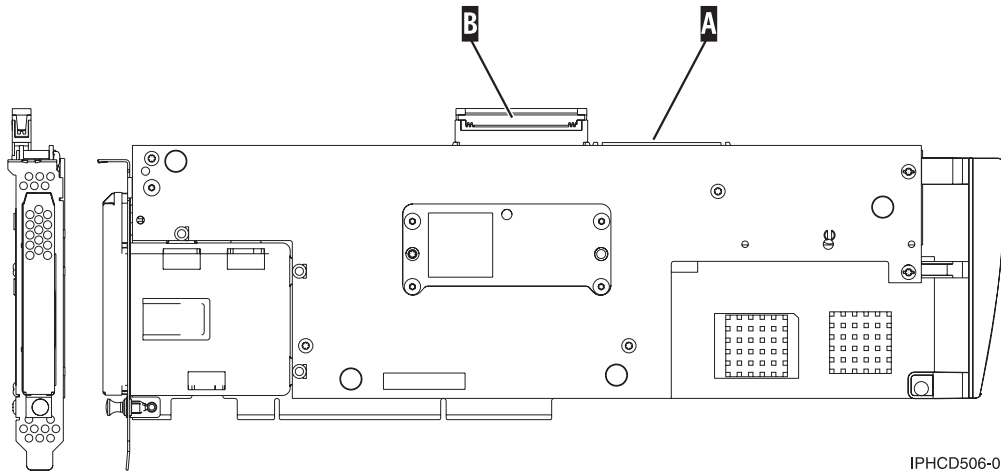

Figure 56. 5708, auxiliary-write cache IOA
2. Attach the cable to SCSI port A on the auxiliary-write cache adapter. See Figure 56 on page 185.